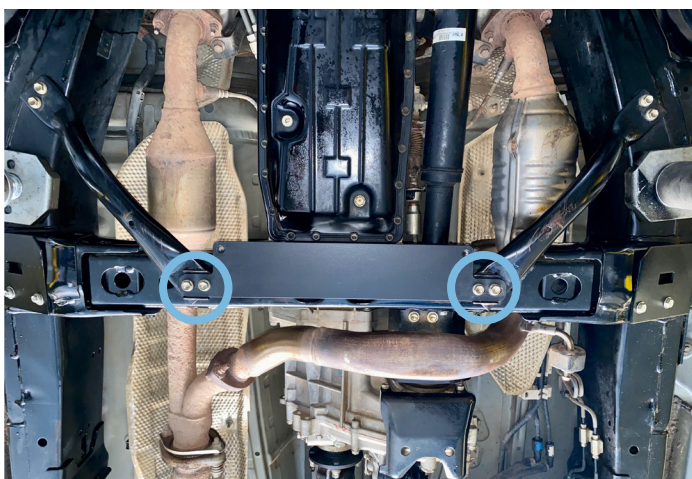

Fig.3
3. Install the center mounting bracket (item 2) using factory bolts as shown in Fig.3.